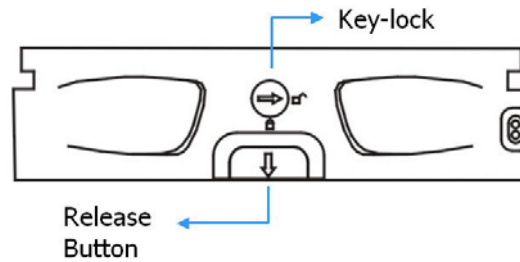

Figure 2-5: Front View of an Individual Drive Tray
Step 1. Make sure that the hard drive is secured to the drive tray. **Make sure the key-lock is in the unlocked position.** The key-lock is unlocked if the groove on its face is in a horizontal orientation. If the groove is in a vertical position, as shown in *Figure 2-5*, then the key-lock is locked and the front flap on the drive tray cannot be opened.